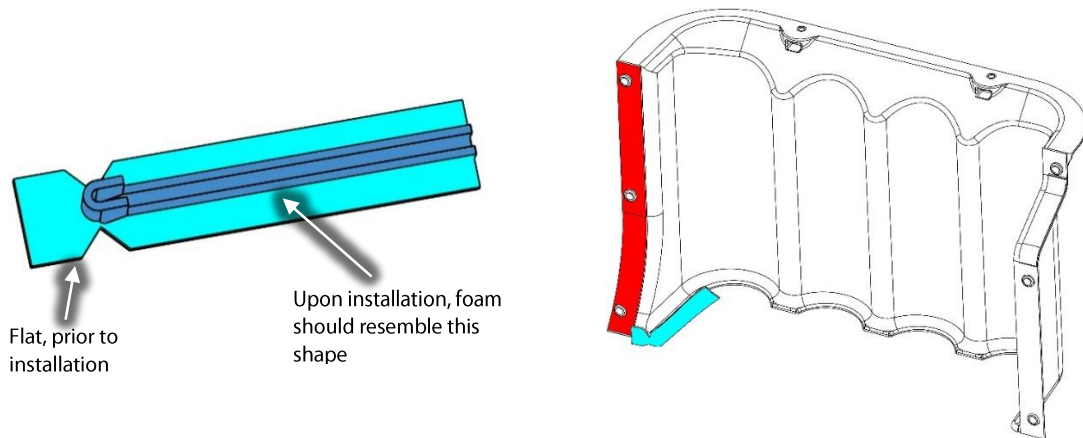

Figure 7 – Foam Wrap
- Carefully work the foam around the cover and only affix the center portion of the foam at this time. Refer to Figure 7 (Foam Wrap) for this and the following step.